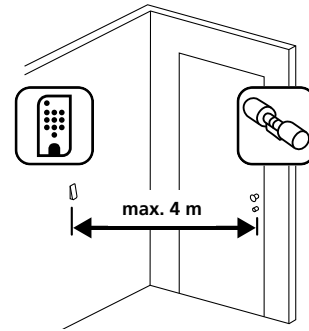

Fig. 1
- ① Place the keypad in the desired installation location (Fig. 1).
- ① Drill three holes according to the dimensions shown in the illustration. Use a 6 mm diameter drill bit (Fig. 1).